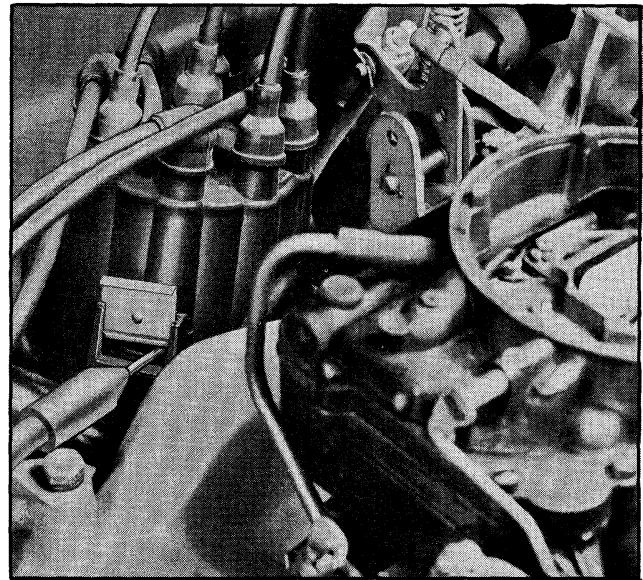

Fig. 11-55 Adjusting Dwell Angle
2. Insert a "Hex" type wrench into the head of the adjusting screw as shown in Fig. 11-55.
2. With the distributor operating, turn the adjusting screw (Fig. 11-55) until the proper dwell angle is obtained.